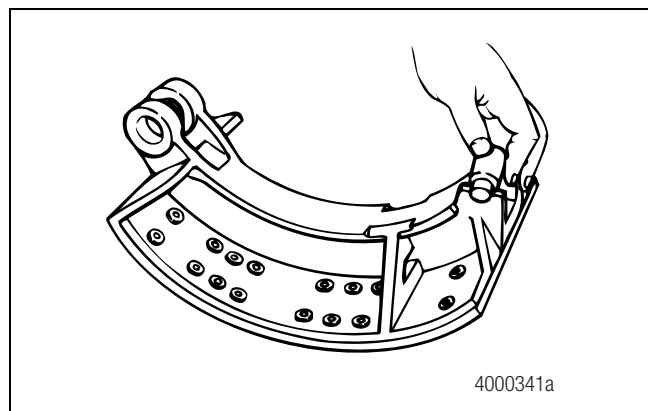

Figure 3.10
- Use a brass drift to remove the bottom anchor pin. Remove the bottom shoe. If necessary, remove the rollers. Figure 3.10.